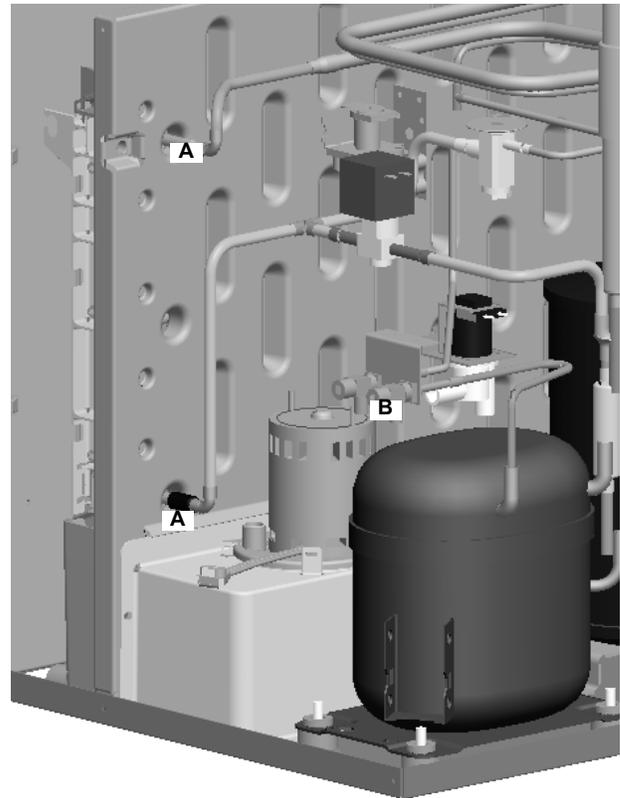

Figure 23.
Remove the insulation from the evaporator inlet and outlet lines (Figure 23).
Attach a nitrogen feed (8-10 psi) to the low side service valve (B) (Figure 23).